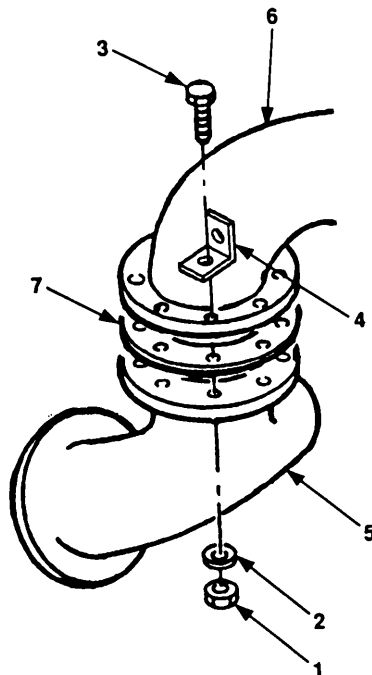

Figure 4-54. Discharge Manifold Maintenance.
- a. Remove eight nuts (figure 4-54, 1), lockwashers (2) bolts (3) and one bracket (4).
- b. Remove discharge manifold (5) from discharge connection (6).
- c. Remove and discard gasket (7).
- a. Install new gasket (7).
- b. Position discharge manifold (5) against discharge connection (6) and align mounting holes.
- c. Install bracket (4), eight bolts (3), new lockwashers (2) and nuts (1).